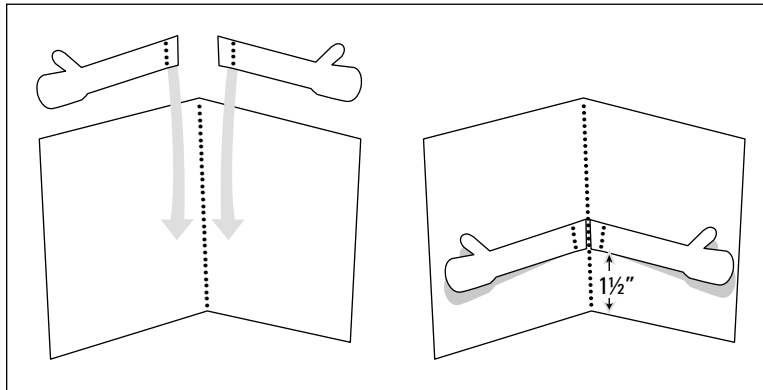

Figure 6-24:
4. Glue the outstretched arms to the white card (see Figure 6-24).